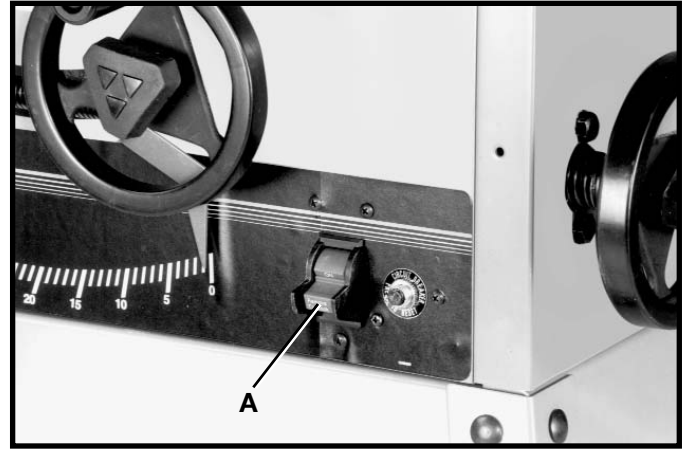

Fig. 33
The switch (A) is located on the front panel of the saw cabinet, as shown in Fig. 33. To turn the saw “ON” move the switch to the up position. To turn the saw “OFF” move the switch (A) to the down position.